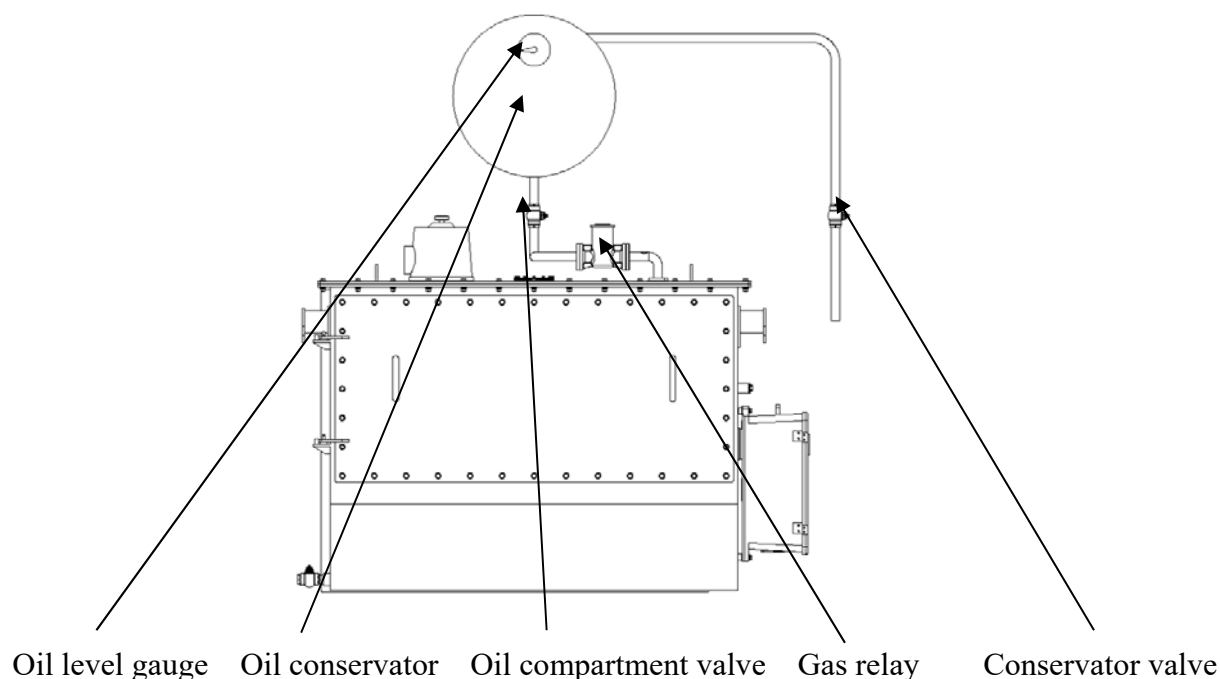

Fig.13
6.1.1 To fill oil under atmospheric pressure. Transformer is equipped with oil conservator, which is connected with tap changer gas relay and there is oil conservator valve in the middle. (See Fig. 13)